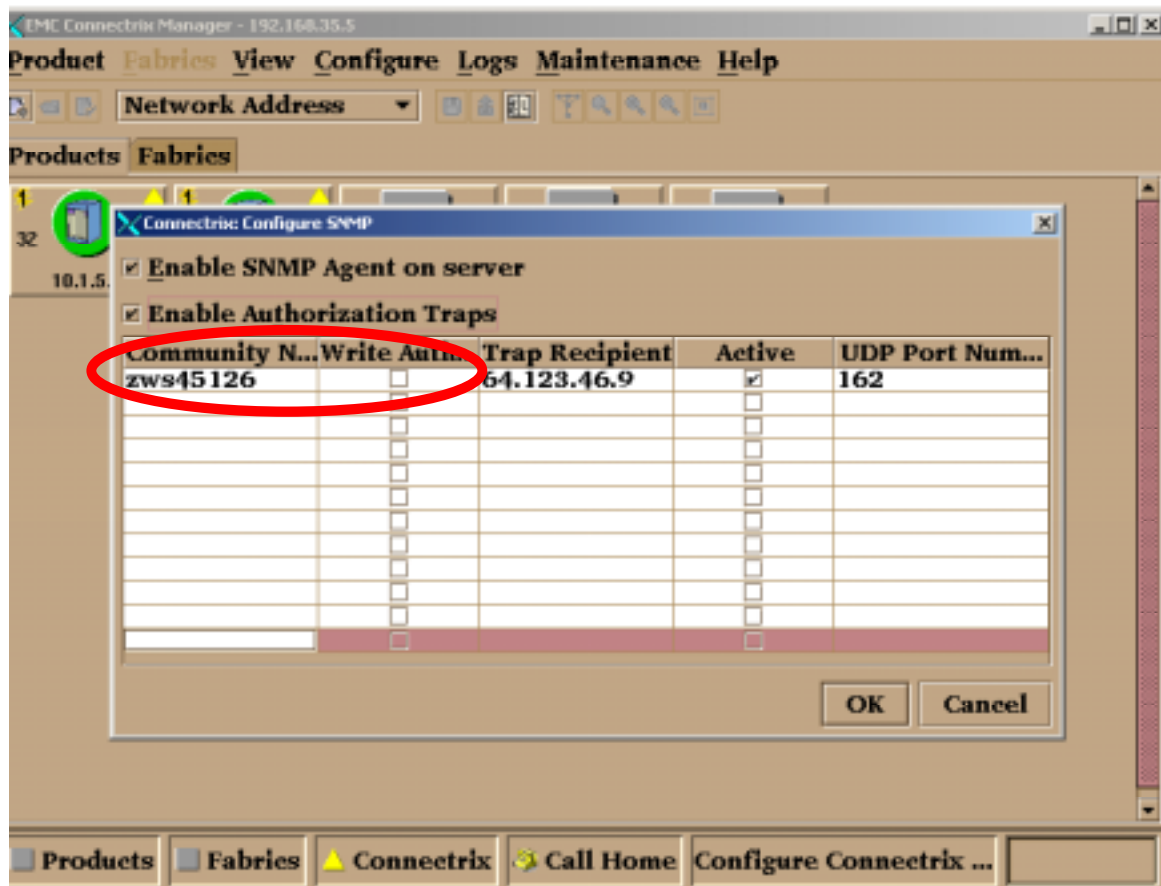

Figure 7 Enabling the SNMP Agent on Connectrix Manager
- In case the SNMP agent has to be enabled, community string should be at least 6 characters with alpha and numeric characters, and write authorization should be turned off. This is illustrated in figure 7.